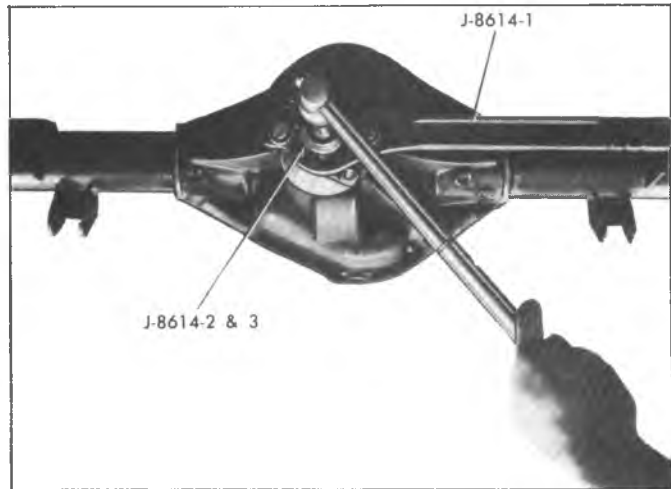

Fig. 17F—Removing Pinion Flange
3. Install Tool J-8614-2, and 3 into holding bar as shown in figure 17F and remove flange from drive pinion. Remove drive pinion from carrier.